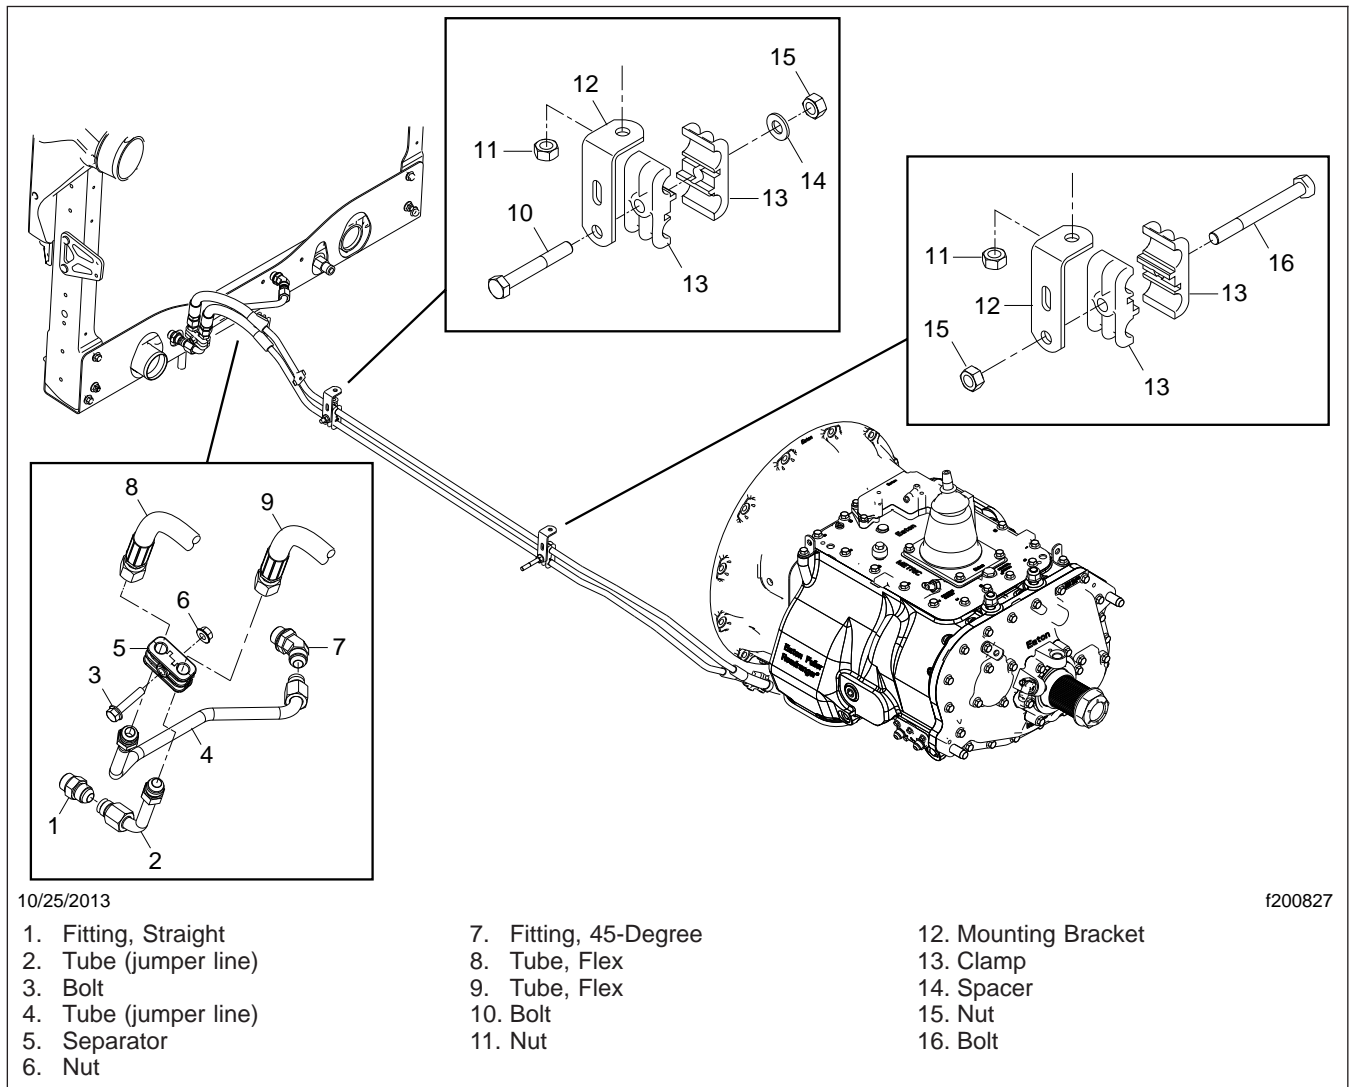

Fig. 5, Transmission Cooler Line Installation (typical)
23. Install the new transmission cooler lines from the transmission to the jumper lines on the radiator. Do not install the jumper lines at this time. See Fig. 5, Fig. 6, and Fig. 7. For more vehicle-specific plumbing diagrams refer to EZWiring in PartsPro.